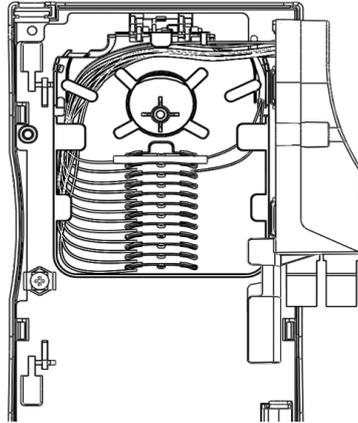

Fig. 23
- 4.4.3. Fusion splice input the fibers and the pigtails (Fig. 23).